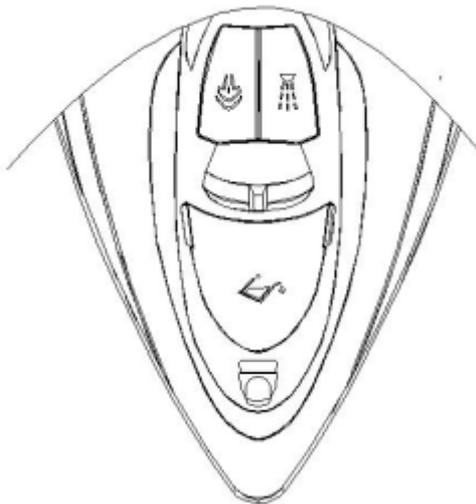
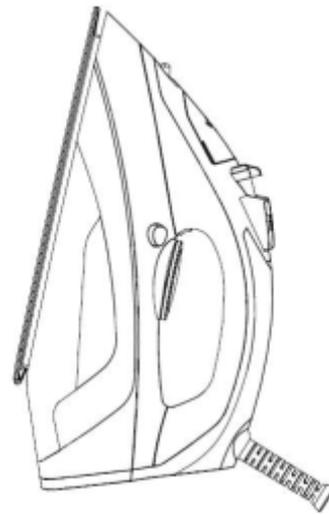

Figure4
Figure 3
4. Make sure steam button is on dry position. (See fig 3), then place the iron vertically (See fig 4).
2. Connect into power supply and indicator light will be illuminated, make sure Steam button is in the Dry position, then place iron as fig.4
3. Once the light is off, hold the iron over the sink and turn steam button to SELF CLEAN position (Fig.3) with a little force. Steam and boiling water will come out of the soleplate while impurities and flakes will be flushed out.